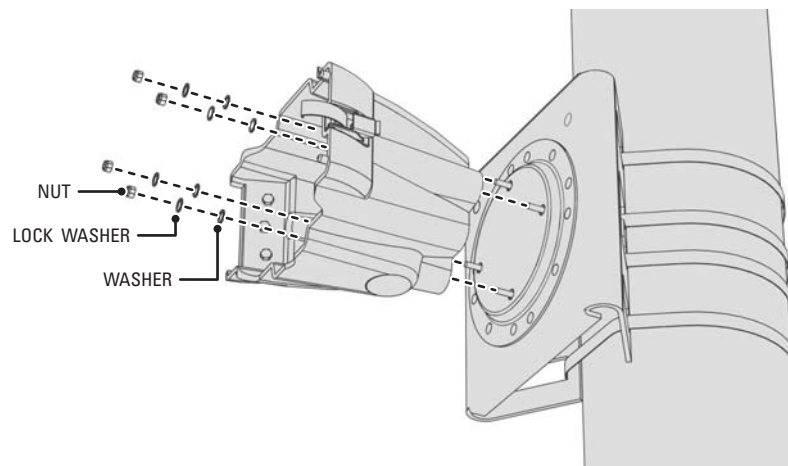

Figure 10. Installing the J-Box (*EWM shown*)
4. Secure the J-box to the mount (refer to Figure 10).
NOTE: The nuts, washers, and lock washers shown in Figure 10 are for illustration only. They are not supplied with the EW5001. Use the actual hardware from the mount to secure the J-box to the mount.